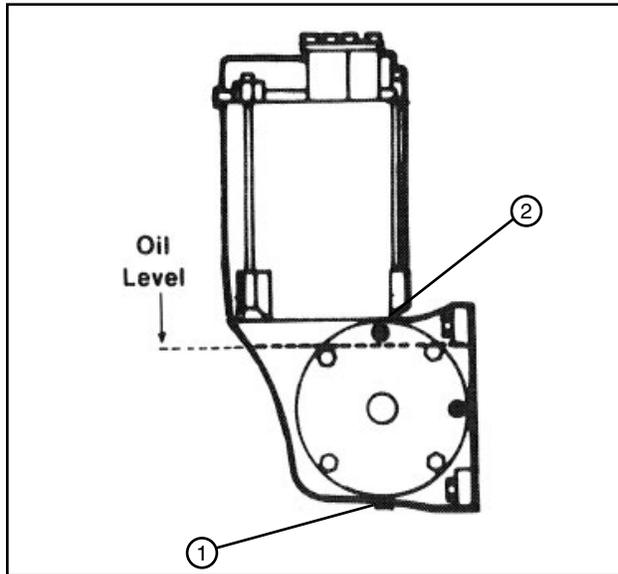

Figure 42-1 1. Drain Plug
1. Remove the drain plug and the fill plug. Drain the oil and install the drain plug. See figure 42-1.
2. Fill the gearbox to within 1/2 in (12.7 mm) of the bottom of the fill plug hole with Valley Gear Lube. The capacity of the gearbox is approximately 1 quart (0.9 liter). See figure 42-1.